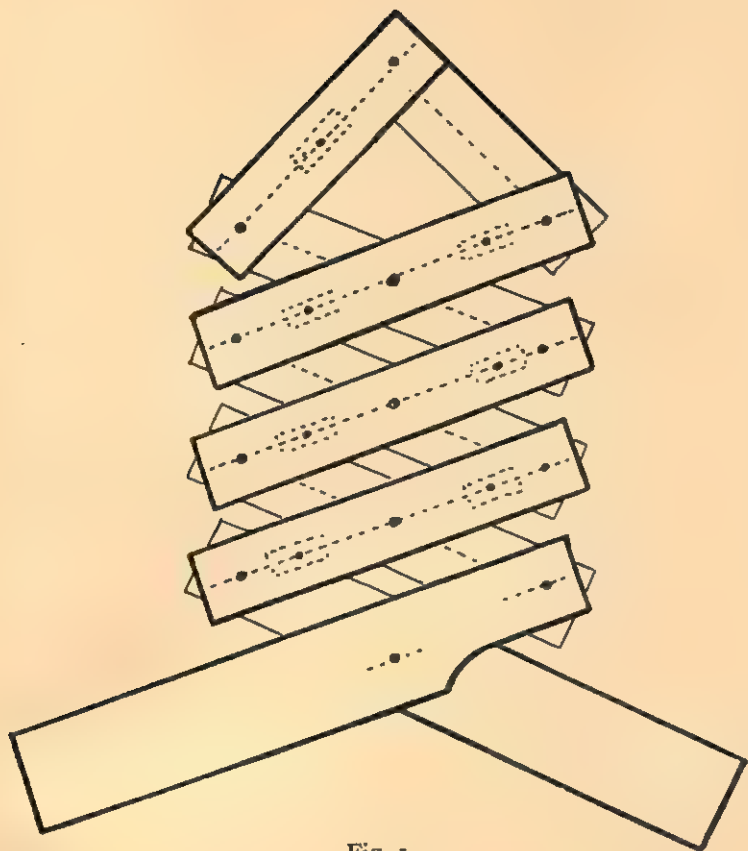

Fig. 1
2. STAND. Shape the two 6-in. strips as seen in Fig. 1, thus making the shaped end ¾ in. wide to match the other strips.
4. Place the strips in position and nail together, making the nails firm by clenching (see notes on page 8). Fig. 1 shows the stand when closed. Fig. 2 shows the stand when open.
5. Place the hen and chicks on stand. Fig. 1 gives their position. See that they stand steadily, making any necessary adjustments with knife or file; then fix in position with glue. They can be made specially firm by nailing up from the under side (using panel pins—the holes for the pins should be bored before gluing).